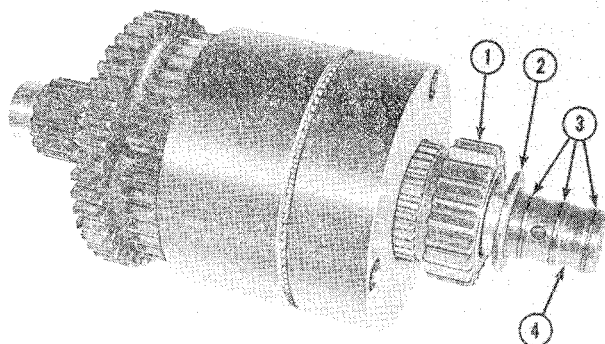

Figure 4-142
Install 3rd speed drive gear (1, Fig. 4-142) washer (2) and new seal rings (3) on shaft (4).